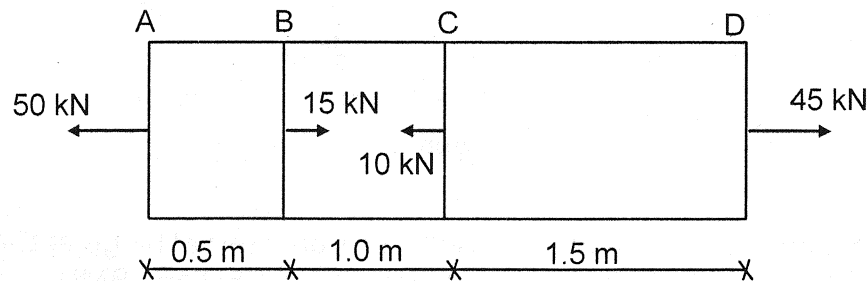

Figure 1
b) Draw the stress-strain curve for mild steel, and give the name to important points on graph. Also determine the total elongation of bar having cross sectional area of  $500 \text{ mm}^2$  is as shown in figure 1. 8